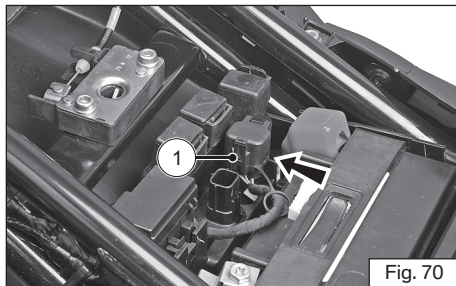

Fig. 70
- ♦ Gently pull out connector along with its cap from its location by releasing the lock (1) (ref. Fig. 70).